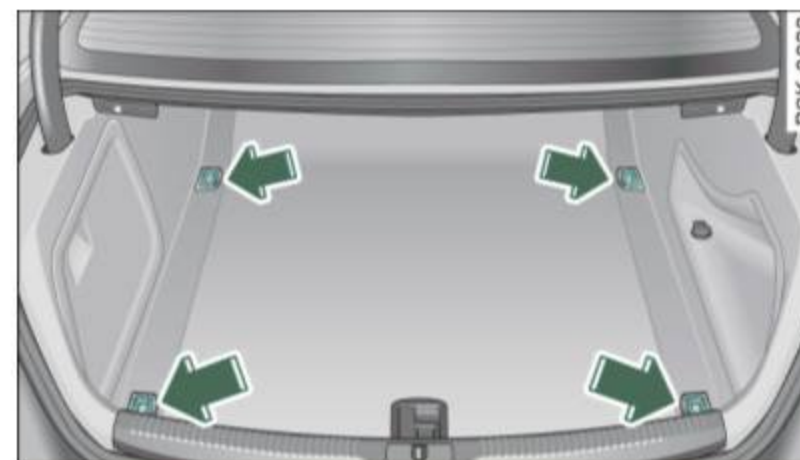

Fig. 79 Location of the tie-down rings in the luggage compartment
- Secure the cargo to the tie-down rings ⇒ fig. 79 -Arrows-.